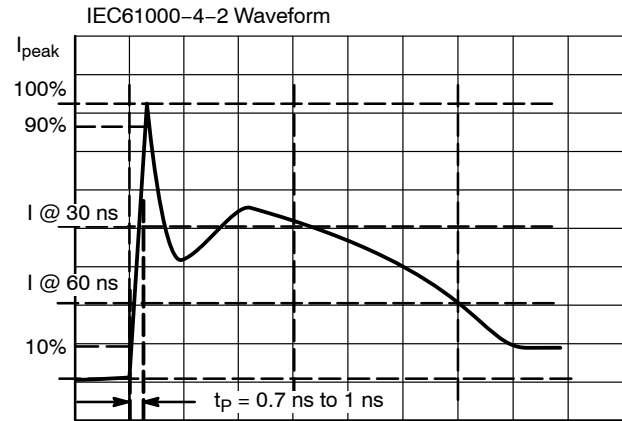

Figure 3. IEC61000-4-2 Spec
6. Typical waveform. For test procedure see Figures 3 and 4 and Application Note AND8307/D.